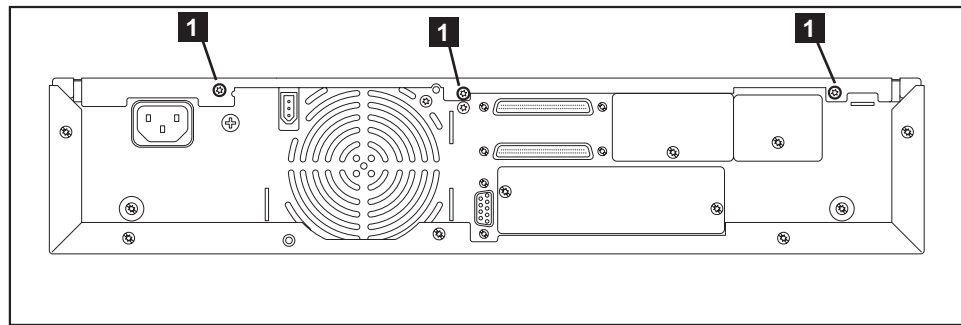

Figure 158. Location of screws on rear panel for drive removal
- b. Remove the three screws from the rear panel (**1** in Figure 158).
- d. Remove the 2 screws attaching the bottom cover to the sides of the Autoloader (**2** in Figure 158 on page 271).